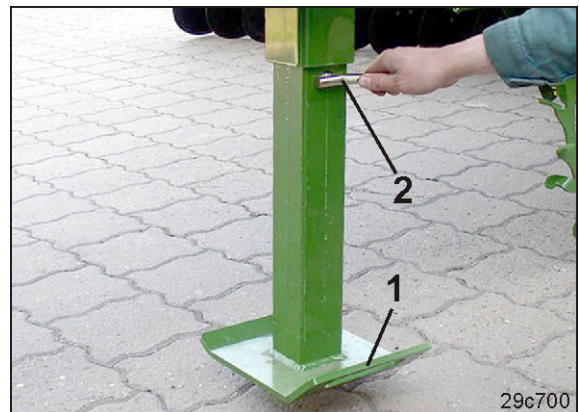

Fig. 115
11. Hold the sustainer (Fig. 115/1) tight and remove the positioning bolt (Fig. 115/2).